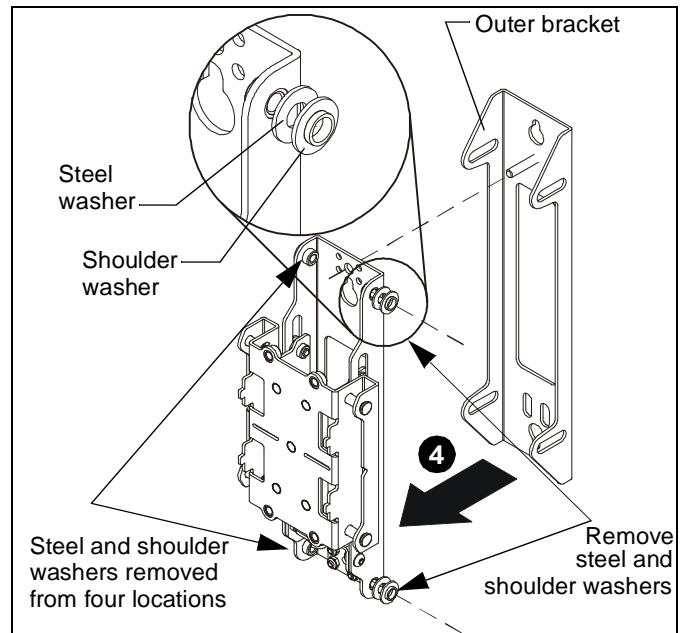

Figure 3
4. Remove wall upright assembly from outer bracket, while removing one shoulder washer and one steel washer from between outer bracket and wall upright assembly in four locations. (See Figure 3)